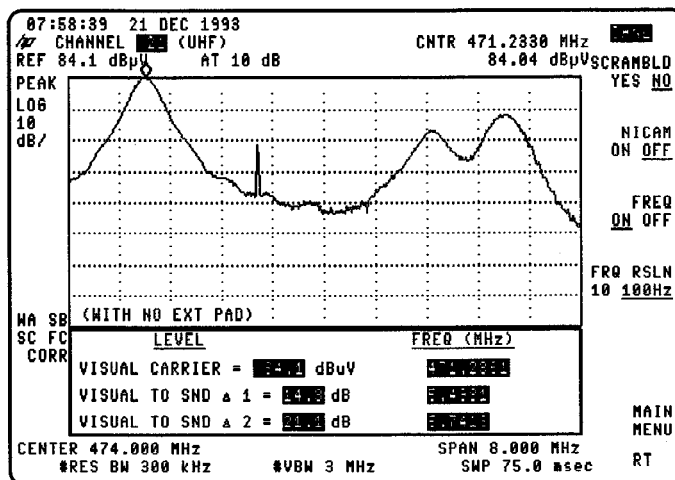

Figure 2-11. Carrier Level and Frequency
2. Press **FREQ ON OFF** (ON). The frequency of the vision carrier and the offset to the sound carrier(s) are now displayed. (See Figure 2-11.)
3. If it is available, press **NICAM ON OFF** (ON). A true RMS power measurement is made across the NICAM band and the visual-to-sound power ratios are displayed in the table.